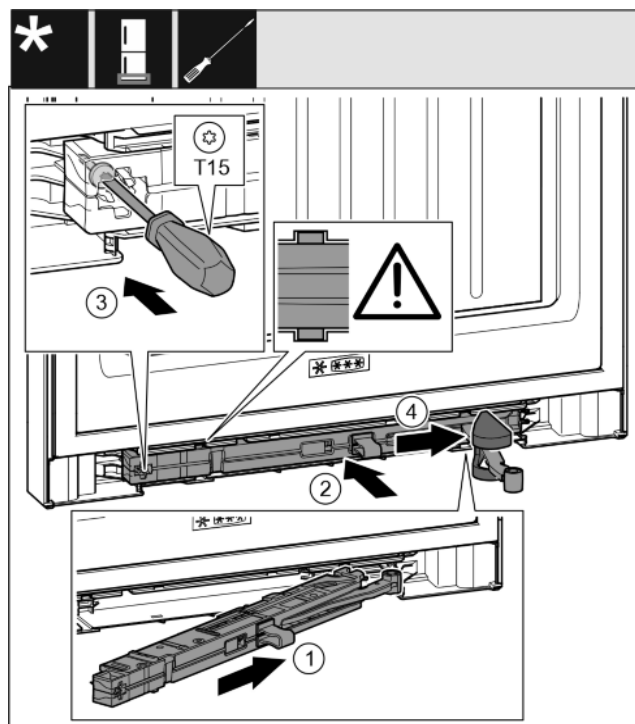

Fig. 36
- ▶ Slide the soft stop unit on the bearing bracket side at an angle into the slot as far as it will go. Fig. 36 (1)
- ▶ Slide the soft stop unit fully into the slot. Fig. 36 (2)
- ▶ Tighten the screw with a T15 screwdriver. Fig. 36 (3)
- ▶ Push the cover over the hinge. Fig. 36 (4)